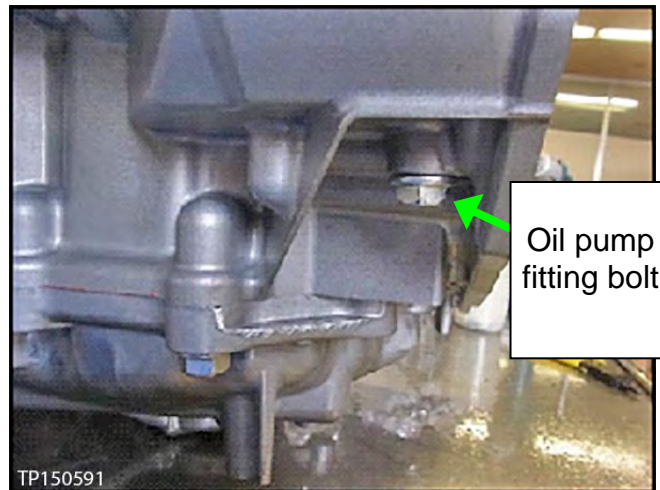

Figure 40
8. Remove the oil pump fitting bolt located above the left rear corner of the oil pan (see Figure 40).